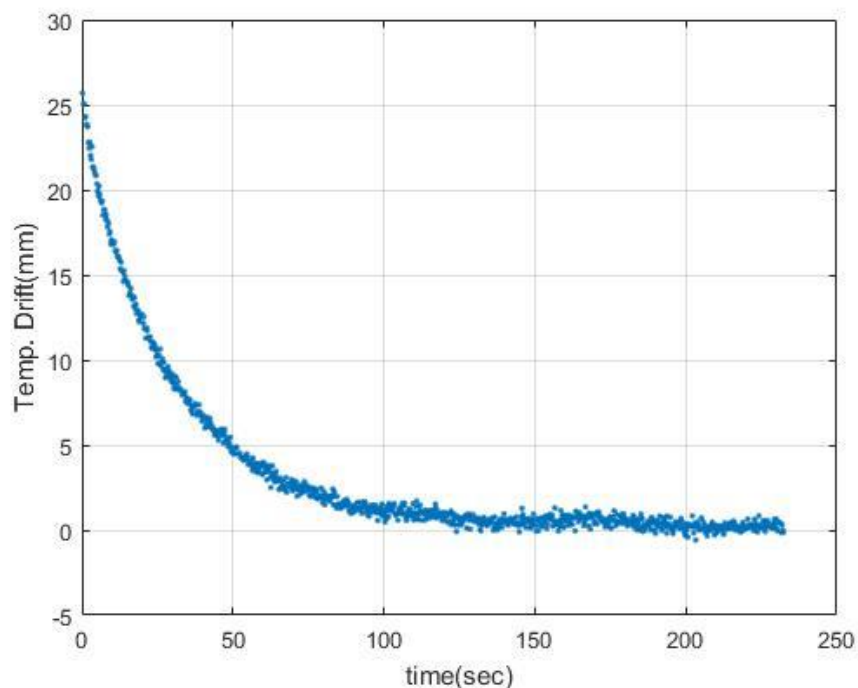

Figure 3.6 Temperature drift offset from reference depth caused by self-induced heating
2. Mode: Selecting temperature drift monitoring mode. 'Measure RefTemp.' is the mode to measure a reference temperature drift statistics after some warm-up time, t_w . During the warm-up time, distance measurement may not be correct (see Figure 3.6). 'Measure CalTemp.' is the mode to measure a calibrated temperature drift statistics based on reference temperature drift statistics for varying temperature.